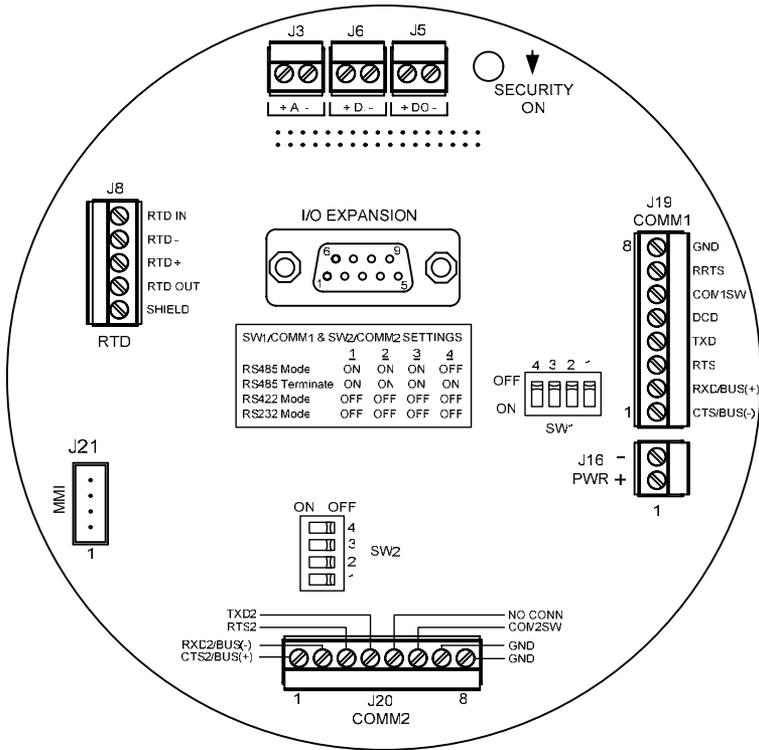

Figure 9 (XFC6200EX Termination Board)
8. Install the probe wire spade lugs under the small screw heads per drawing. One color (typically white) is one side of the RTD and will go to the RTD (Out & +) connections on the 6200EX and the other color (typically red) is the other side of the RTD and will go to the (In & -). See Figure 9 on page 12 for a view of the 6200EX RTD terminals.
- Verify SW1 or SW2 switches on the 6200EX termination board are in the proper position. (See Fig. 9 on page 12)